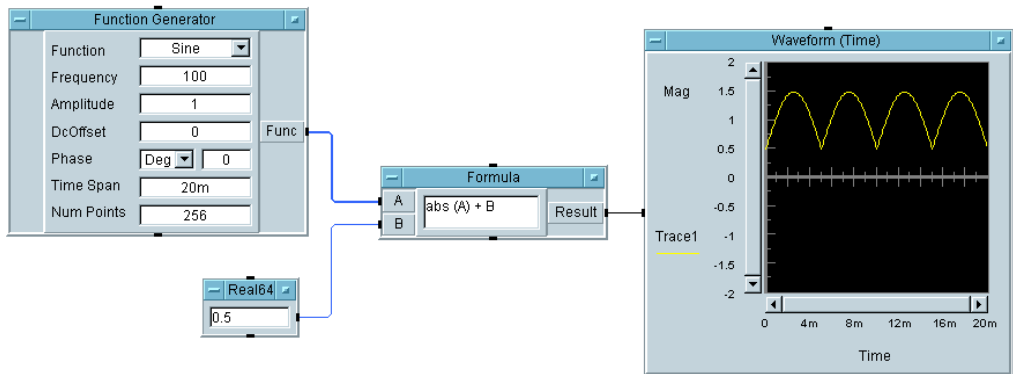

Figure 2-17. Creating a Formula Object Program
2. Select Device \Rightarrow Formula to add the Formula object to the Main window. Add a second input (B) to the object by putting the mouse pointer in the input terminal area and clicking **Ctrl+A**.
6. Connect the objects as shown in Figure 2-17. Run the program.